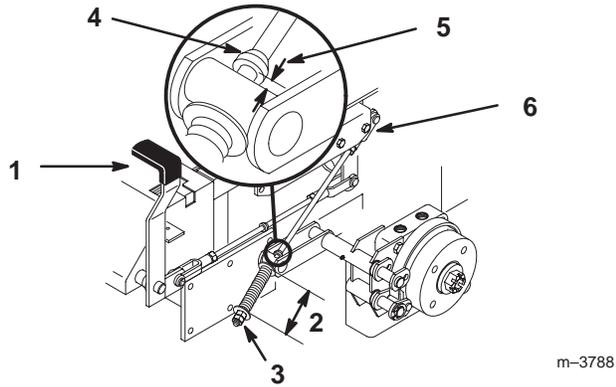

Figure 64
2. Measure the length of the spring. The measurement should be 2-3/4 in. (70 mm) between the washers (Fig. 64).
3. If an adjustment is necessary, loosen the jam nut below the spring and tighten the nut directly below the yoke (Fig. 64). Turn the nut until the correct measurement is obtained. Tighten the two nuts together and repeat on the opposite side of the unit.
- Measure the distance between the trunnion roller and the collar on the brake rod. The measurement should be 3/16–1/4 in. (5–7 mm) (Fig. 64).
- If an adjustment is necessary, loosen the jam nut directly below the yoke. Turn the bottom rod until the correct measurement is obtained (Fig. 64). Tighten the jam nut at the yoke.